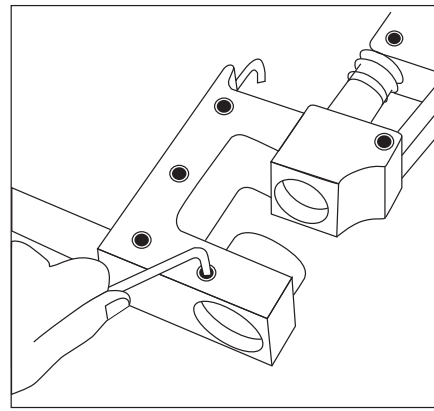

Fig 2
2. Remove cup by loosening hex bolt closest to cup located on C-frame. (Fig. 2)